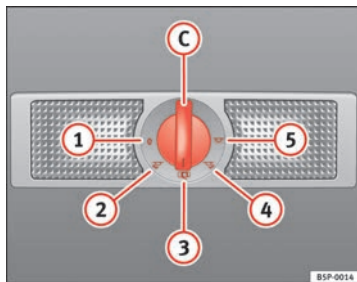

Fig. 82 Interior roof trim: rear interior lights and reading lights.
The switch ⇒ fig. 82 C is used to select the following positions:
In switch position ⇒ fig. 82 ①, the interior and reading lights are switched off.